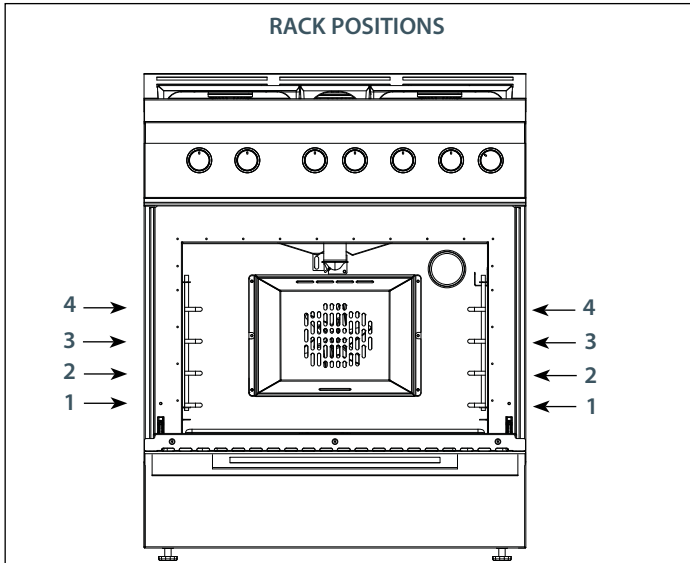

Fig. 20
2. Place the oven racks in the proper position before turning on the oven. For correct rack position check your recipe. The most frequently used position is number 2 (the food product must be in the center of the oven for airflow). The rack positions are numbered from the bottom as in the floors of a building (Fig. 20).